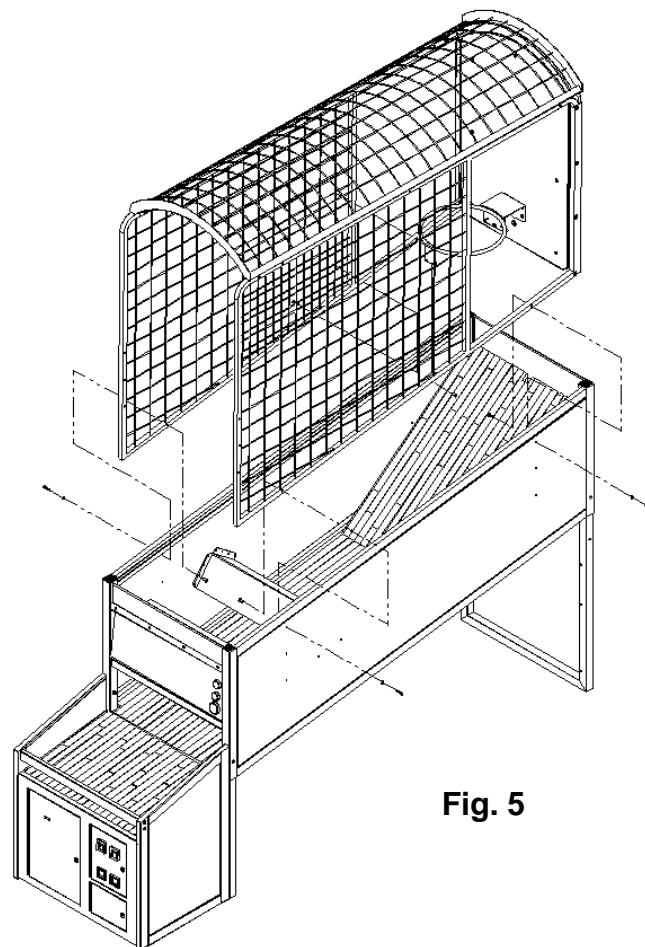

Fig. 5
9. Install the Frame assembly to the game. It can be adjusted to three heights: 9ft., 8 1/2 ft. and 8 ft. Please install to the highest possible height. Install by lifting the frame inside the game to one of the 3 sets of mounting holes, and secure with (4) 1/4-20 X 1 1/2" button head screws, (4) flat black washers (from the outside of the cabinet) and (4) 1/4-20 joint connectors. (from the inside of the cabinet) (See Fig. 5)